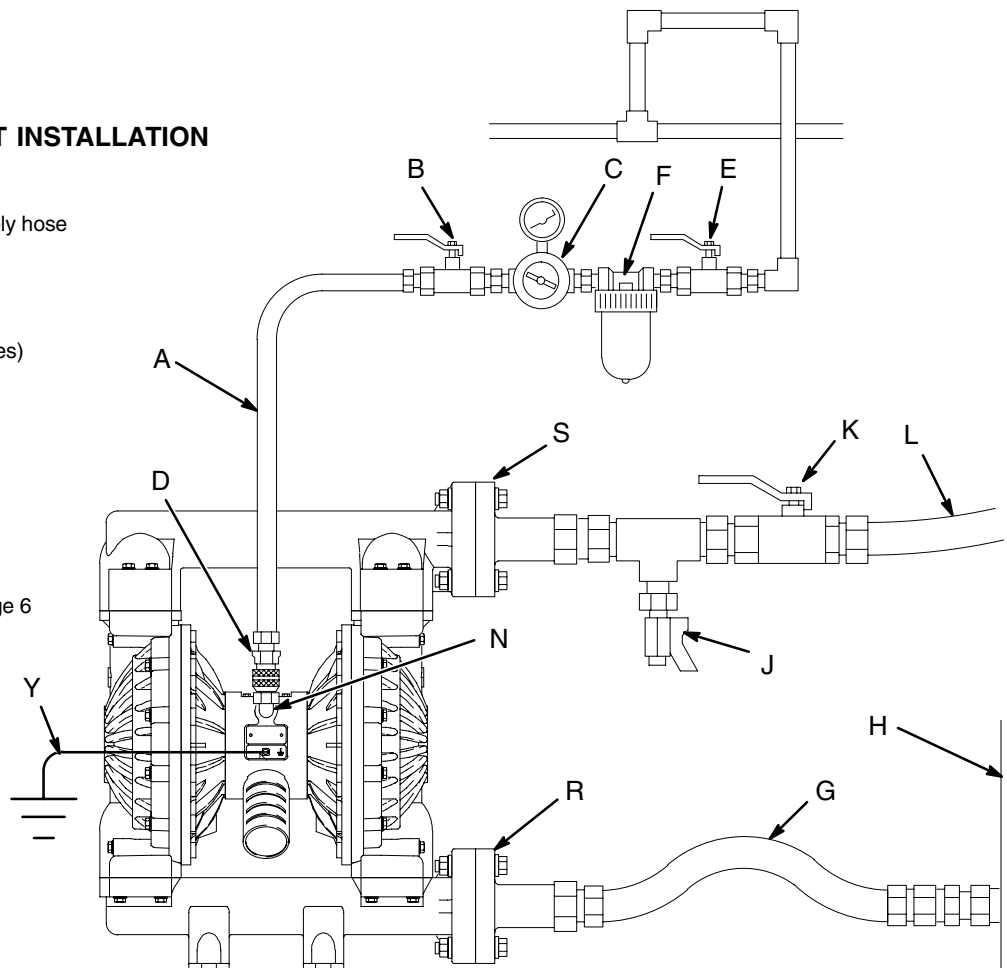

Fig. 2
- The Typical Installation shown in Fig. 2 is only a guide for selecting and installing system components. Contact your Graco distributor or Graco Technical Assistance (see back page) for assistance in planning a system to suit your needs.
A bleed-type master air valve (B) is required in your system to relieve air trapped between this valve and the pump. Trapped air can cause the pump to cycle unexpectedly, which could result in serious injury, including splashing in the eyes or on the skin, injury from moving parts, or contamination from hazardous fluids. See Fig. 2.
1. Install the air line accessories as shown in Fig. 2. Mount these accessories on the wall or on a bracket. Be sure the air line supplying the accessories is electrically conductive.
- a. Install an air regulator (C) and gauge to control the fluid pressure. The fluid outlet pressure will be the same as the setting of the air regulator.
- b. Locate one bleed-type master air valve (B) close to the pump and use it to relieve trapped air. See the **WARNING** at left. Locate the other master air valve (E) upstream from all air line accessories and use it to isolate them during cleaning and repair.
- c. The air line filter (F) removes harmful dirt and moisture from the compressed air supply.
2. Install an electrically conductive, flexible air hose (A) between the accessories and the 1/2 npt(f) pump air inlet (N). See Fig. 2. Use a minimum 1/2" (13 mm) ID air hose.
3. Screw an air line quick disconnect coupler (D) onto the end of the air hose (A); be sure the coupler porting is large enough to not restrict the air flow, which will affect pump performance. Screw the mating fitting into the pump air inlet snugly. Do not connect the coupler (D) to the fitting until you are ready to operate the pump.
#### KEY FOR FIG. 2
A fluid drain valve (J) is required to relieve pressure in the hose if it is plugged. The drain valve reduces the risk of serious injury, including splashing in the eyes or on the skin, or contamination from hazardous fluids when relieving pressure. Install the valve close to the pump fluid outlet. See Fig. 2.
1. The pump fluid outlet (S) is a 2" raised face flange. Refer to **Flange Connections** on page 9.
2. Install a fluid drain valve (J) near the fluid outlet. See the **WARNING** above.
3. Install a shutoff valve (K) in the fluid outlet line.